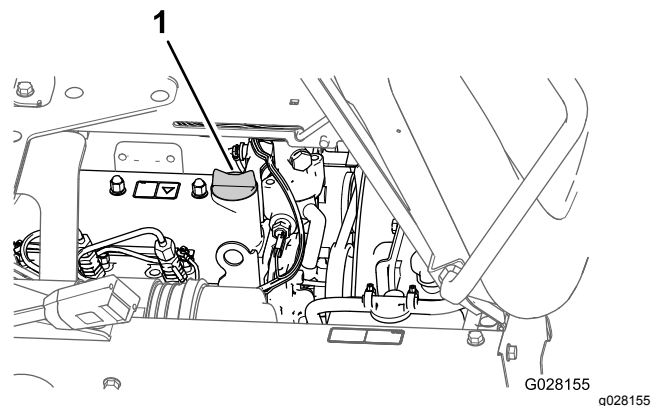

Figure 73
5. Remove the oil-filler cap from the filler neck of the valve cover of the engine and slowly pour approximately 80% of the specified amount of oil into the filler neck (Figure 73).
- Install the oil-filler cap into the filler neck (Figure 73).